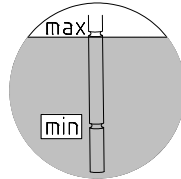

Figure 5-1: Check the oil level with a dipstick
4. Gear units with an oil level vessel: The oil level must be checked **in the oil level vessel** with the aid of the dipstick plug (thread G1 1/4). The oil level must be between the upper and lower mark when the dipstick is completely screwed in (see Fig. 5-1). The oil level must be corrected with the correct type of oil if necessary. These gearboxes may only be operated in the configuration stated in Section 6.1.